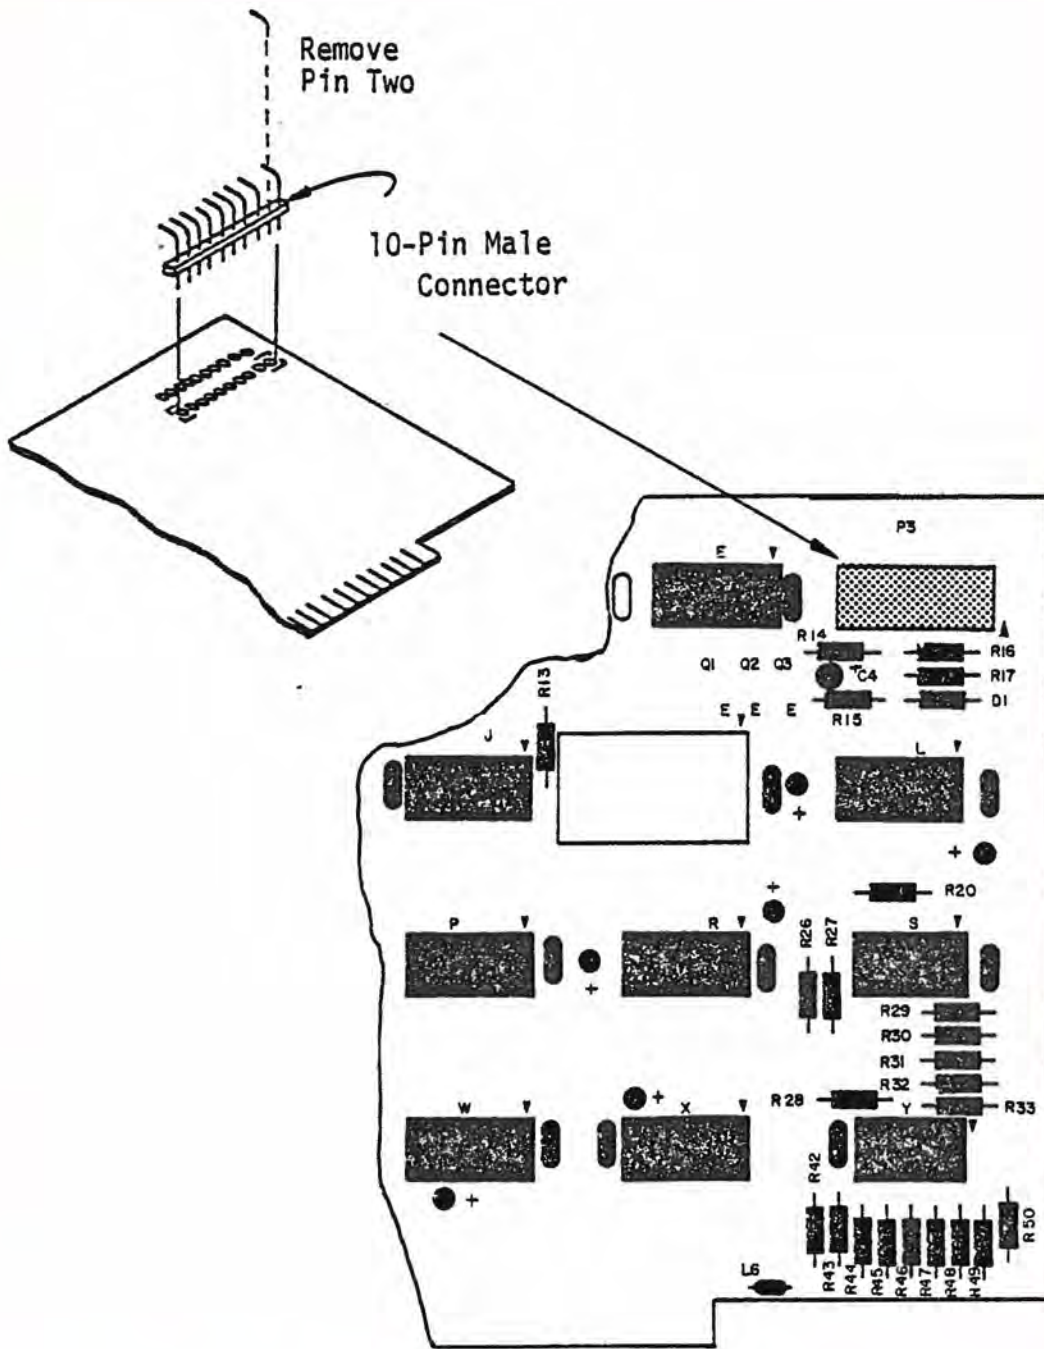

Figure 5-21 Male Connector Installation
1. Orient the connector as shown in Figure 5-21. The bent pins should point toward the top of the board.